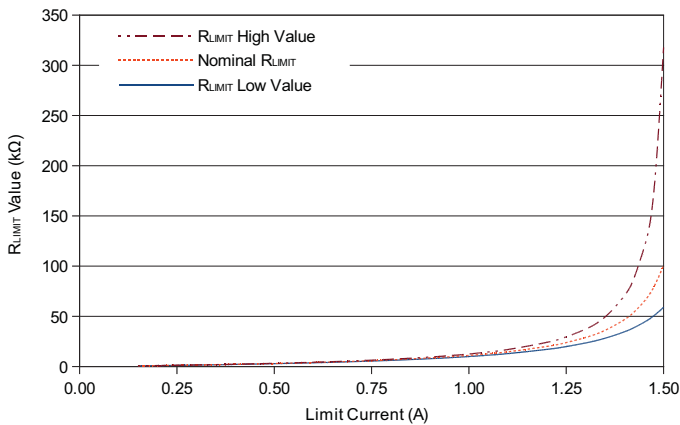

Figure 1. Total R_{LIMIT} Value Range for HTC1500
- Because internal circuit component tolerances vary from unit to unit, the final R_{LIMIT} value may be different than the values given in the tables in the datasheet. Figures 1 and 2 illustrate the resistance ranges that may be encountered when tightly setting the current limit.